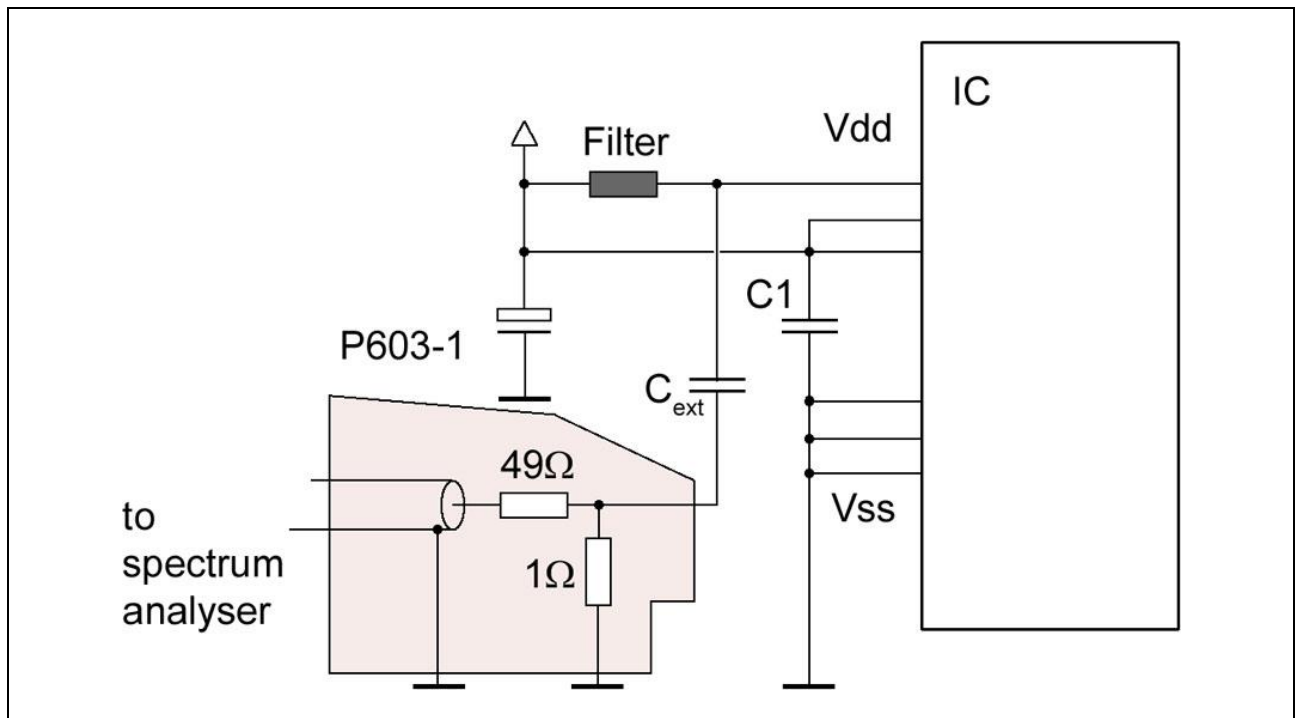

Figure 4 P603-1, current measurement on a single Vdd pin with external DC-decoupling..
3. Current measurement (**P603-1**) on a single Vdd pin (with external capacity), **Figure 4**